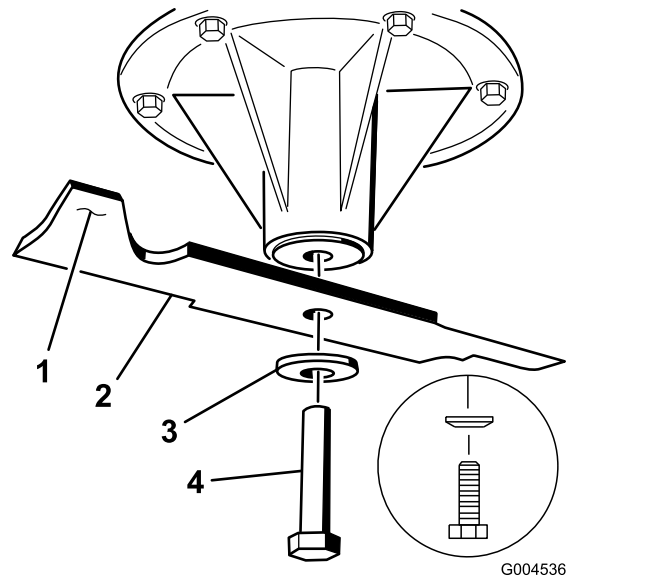

Figure 95
1. Install the blade onto the spindle shaft (Figure 95).
2. Install the spring disk and blade bolt (Figure 95).
Note: The spring-disk cone must be installed toward the bolt head (Figure 95).